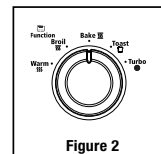

Figure 2
2. **Temperature Control Knob** – Adjust the dial thermostat to the desired temperature. (See Figure 2)